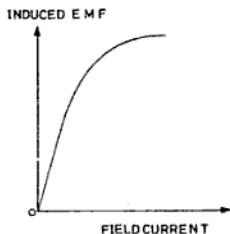
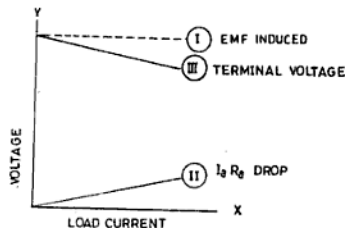

Fig. 7.10 OCC curve of generator
Fig. 7.11 ICC-cum-ECC curve of separately excited generator
The characteristic curves of separately excited generators are shown in Figs. 7.10 and 7.11. The curve in Fig. 7.10 is the OCC curve and gives the relation between the current through the field windings and the emf induced in the armature. The curve starts from zero (0), increases rapidly and then becomes approximately parallel to the  $x$ -axis. The reason for its becoming parallel to the  $x$ -axis is the magnetic saturation of the field poles. The curves in Fig. 7.11 gives the relation between load current induced emf, drop in the armature and terminal voltage. These curves are similar to the magneto.